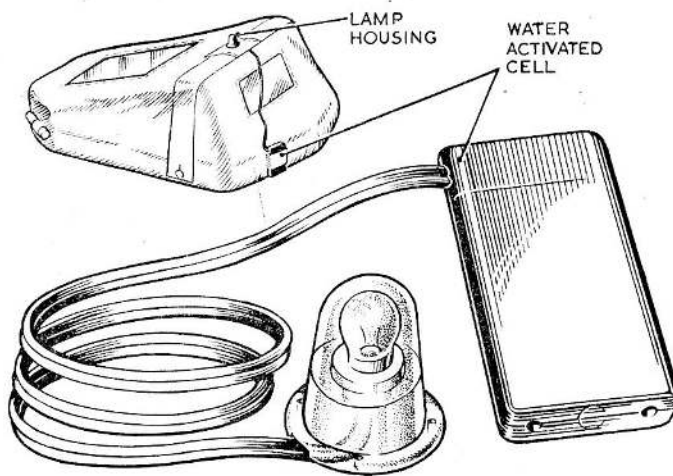

Fig. 1. Lamp, with inset showing location on cot
2. The floatation cot lamp Mk. 1 (*fig. 1*), comprises a lamp housing connected by a 20-in. length of twin P.V.C. covered flexible cable to a water activated cell. The lamp is situated on the top of the cot, being mounted in the centre of the canopy arch support tube, whilst the water-activated cell is located below the water line on the outside of the cot.